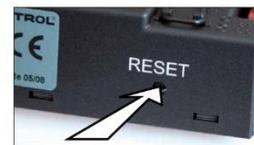

Figure 22: Receiver Reset Button
- Press and hold the receiver's reset button (see figure 22) until you hear two (2) beeps. The first beep is short and the second beep is long. After the second beep, release the reset button.